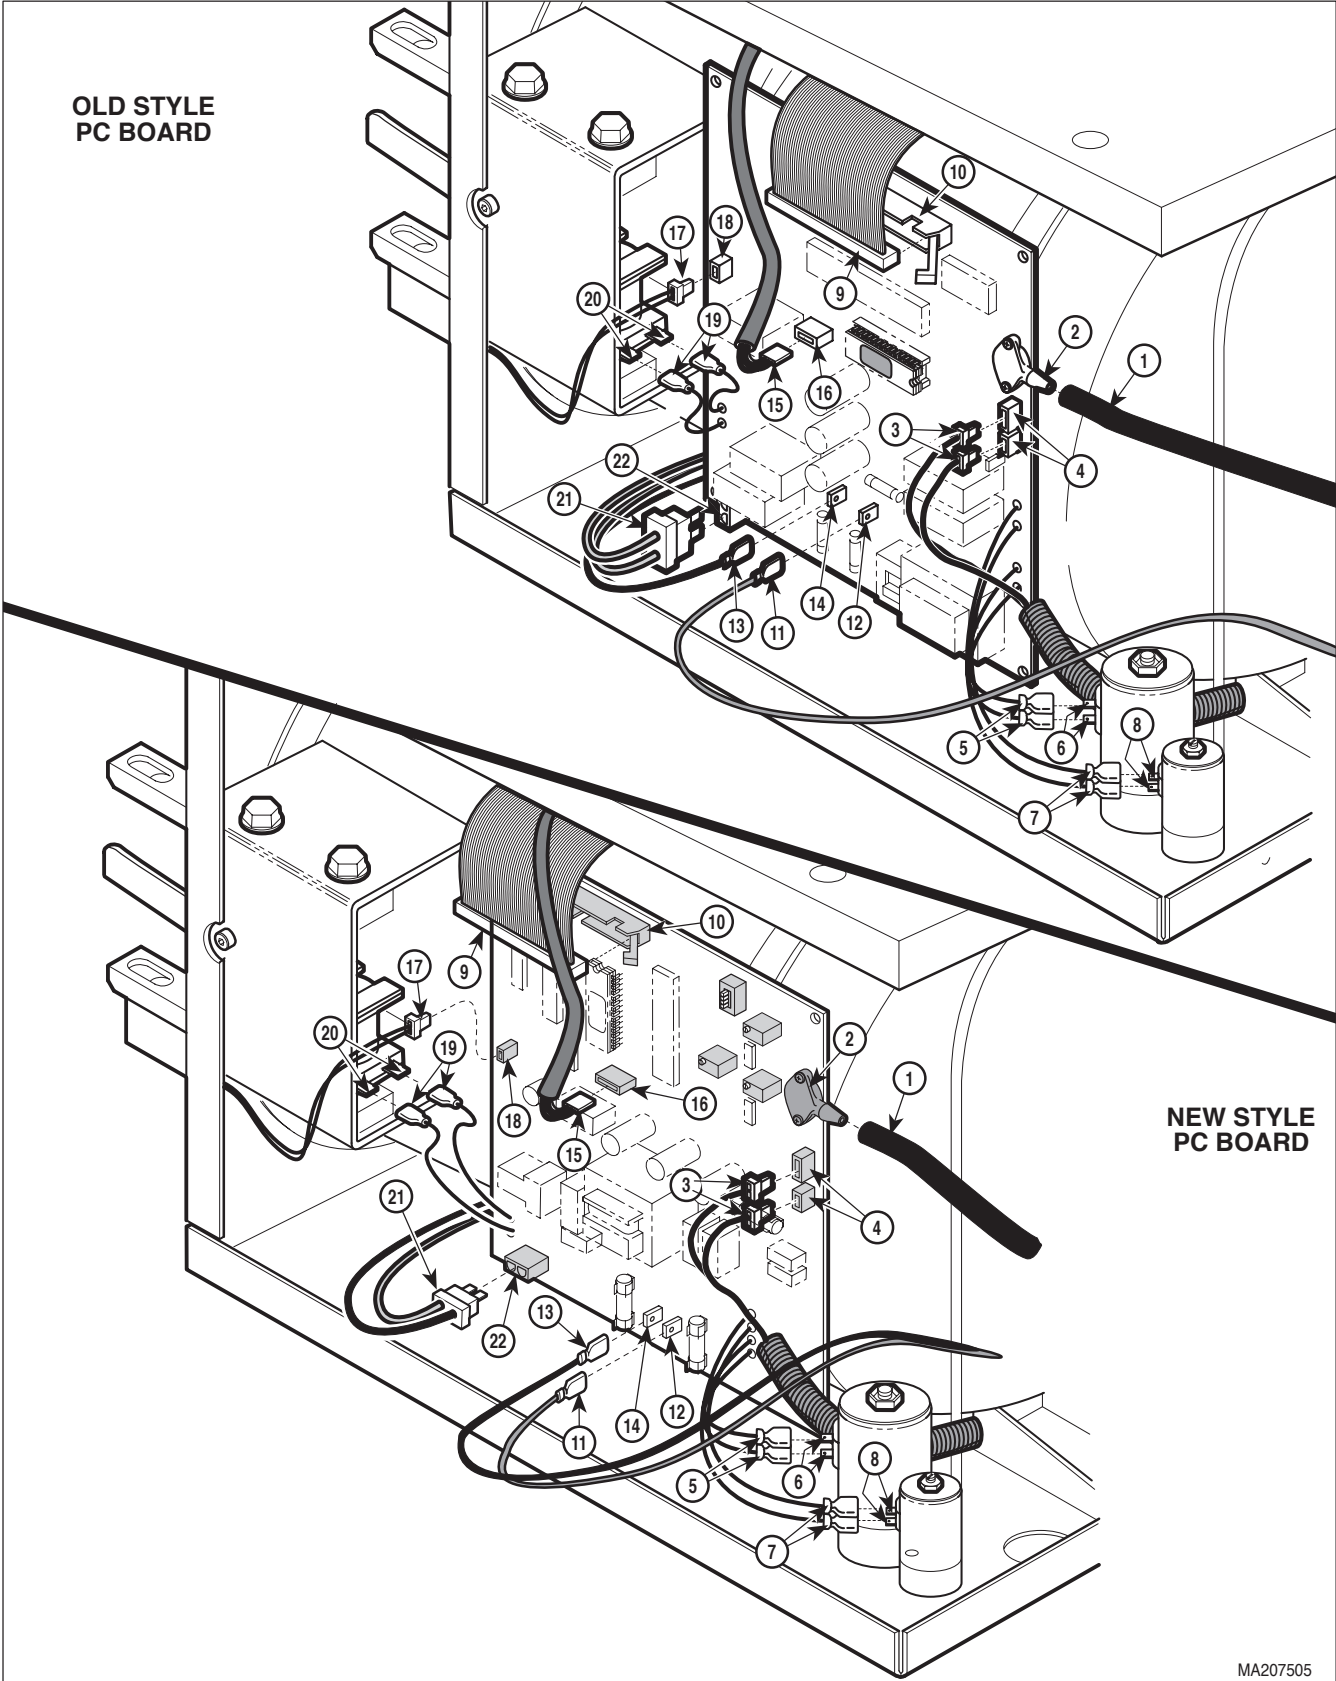

Figure 4-14. Control PC Board Connections
- (1) Remove right hand side panel (Refer to para 4.3).
- (2) Disconnect pressure tube (1, Figure 4-14) from pressure sensor (2).
- (3) Install control PC board (3) and control PC board bracket (4) as an assembly on base (5) and secure using two screws (2) and locknuts (1).
- (4) Connect heater element wire (21, Figure 4-14) to connector (22).
- (5) Connect two wires (19) on pulse solenoid terminals (20).
- (6) Connect wire harness (17) to connector (18).
- (7) Connect printer cable (15) to connector (16).
- (8) Connect hot wire (13) to terminal (14).
- (9) Connect neutral wire (11) to terminal (12).
- (10) Connect ribbon connector (9) to connector (10).
- (11) Connect two wires (7) to terminals (8).
- (12) Connect two wires (5) to terminals (6).